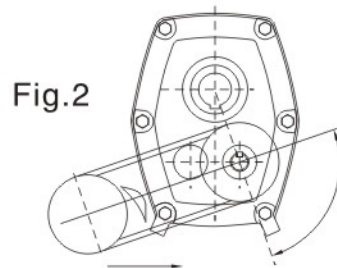

Fig. 2
- 2、安装电机时，电机带轮和减速机的输入轴带轮中心的连线应该和减速机输出轴与输入轴中心的连线成大约90°关系（参考图2），这样可以用扭力臂拉紧皮带。如果输出轴是逆时针旋转，扭力臂最好被固定在减速机的右边（参考图3）。
2. Install motor and wedge belt drive with the belt pull at approximately 90° to the center line between driven and input shafts (see fig.2). This will permit tensioning of the wedge belt drive with the torque arm which should preferably be in tension. If output hub runs anti-clockwise, torque arm should be positioned the right (see fig.3).